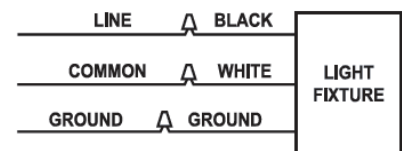

FIG.6
1. Remove junction plate from fixture housing.(see FIG. 6)